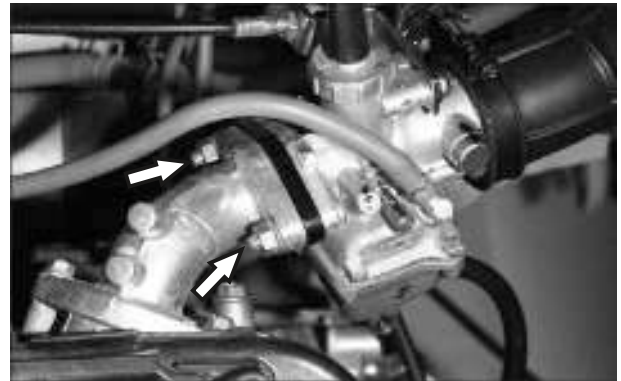

Fig. 3.1
- Loosen and remove 2 nos. M6 hexagonal flange nuts from Carburetor mounting. (Fig. 3.1)